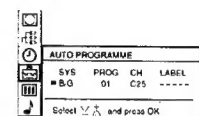

Fig. 4
- Select »Auto Programme« with Δ or ∇ and press OK. The AUTO PROGRAMME menu appears. (See Fig. 4)